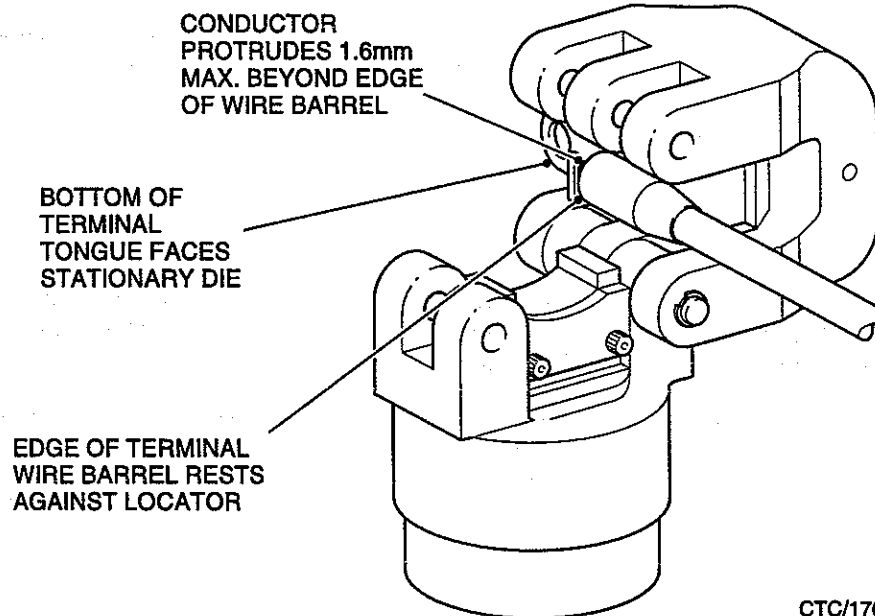

Fig 5 Correct location of termination in crimping tool
- 12.4 Place the termination onto the movable die so that the barrel butts against the locator (see Fig 5).